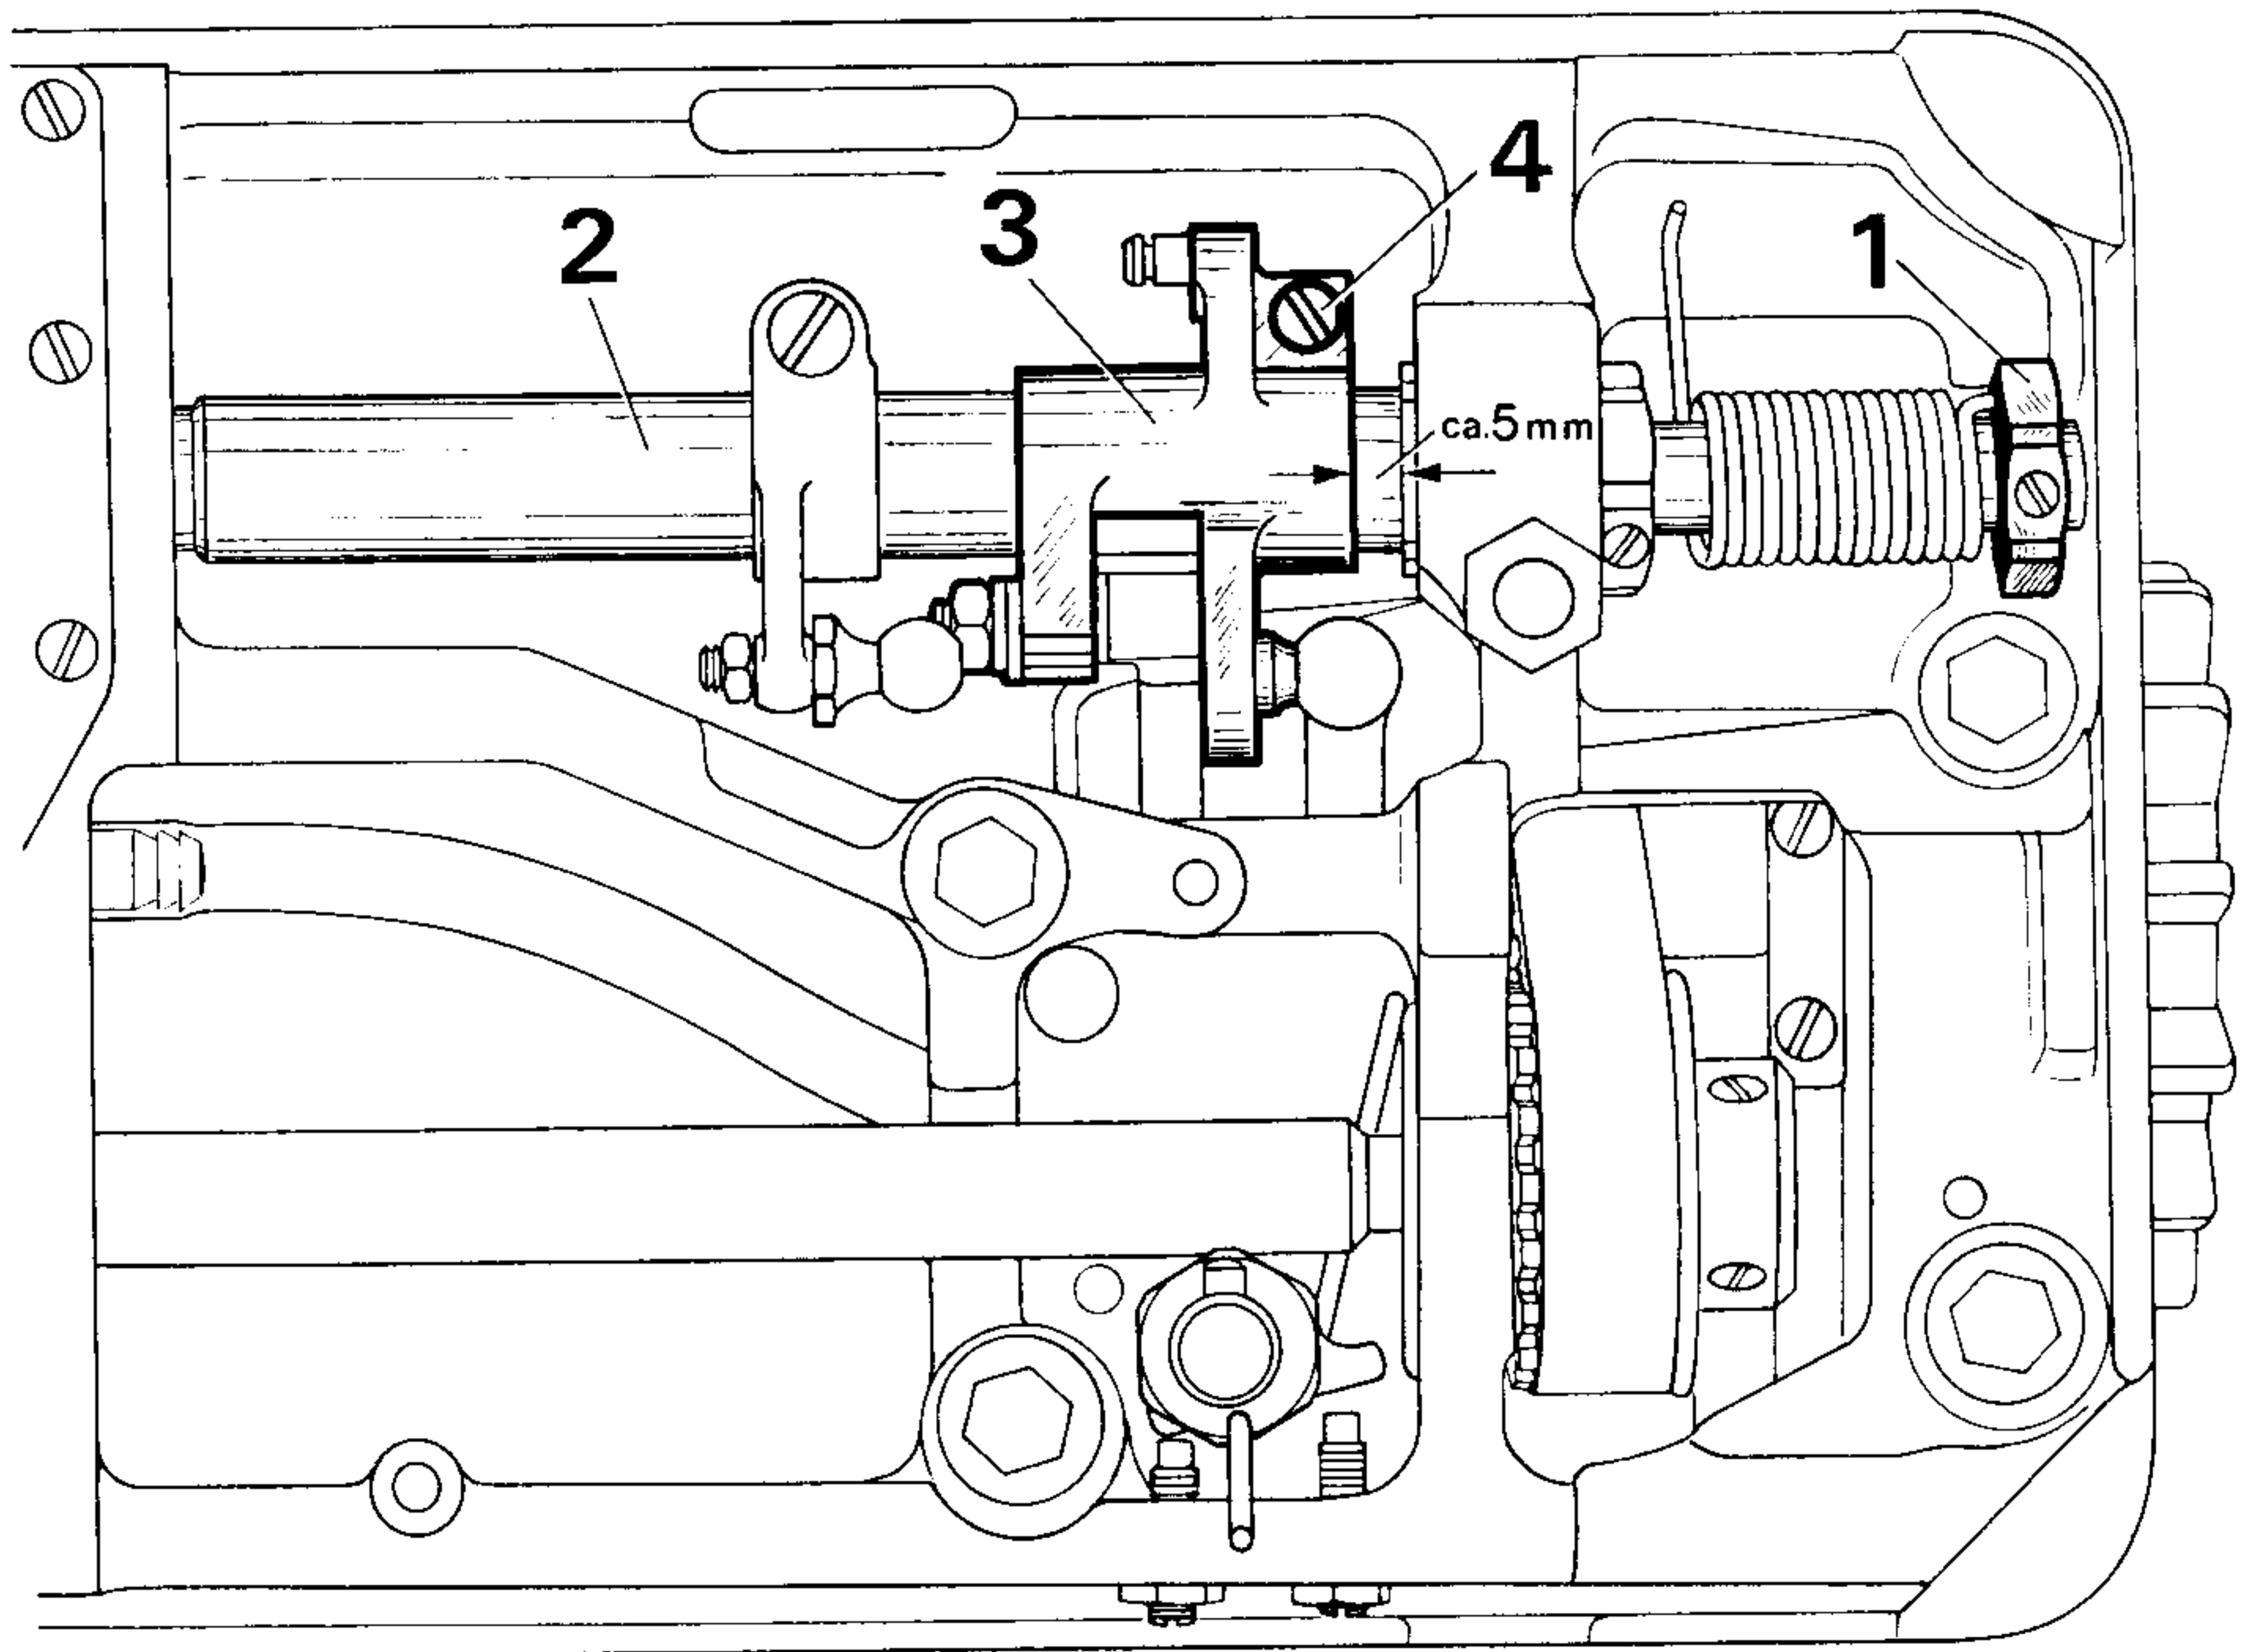

Fig. 2.0.2.
Note: The feed motion can also be zeroed with the gearcase closed (see Fig. 2.0.2.).
- 2.5. Adjustment procedure to be applied when the gearcase cover is closed (Fig. 2.0.2.).